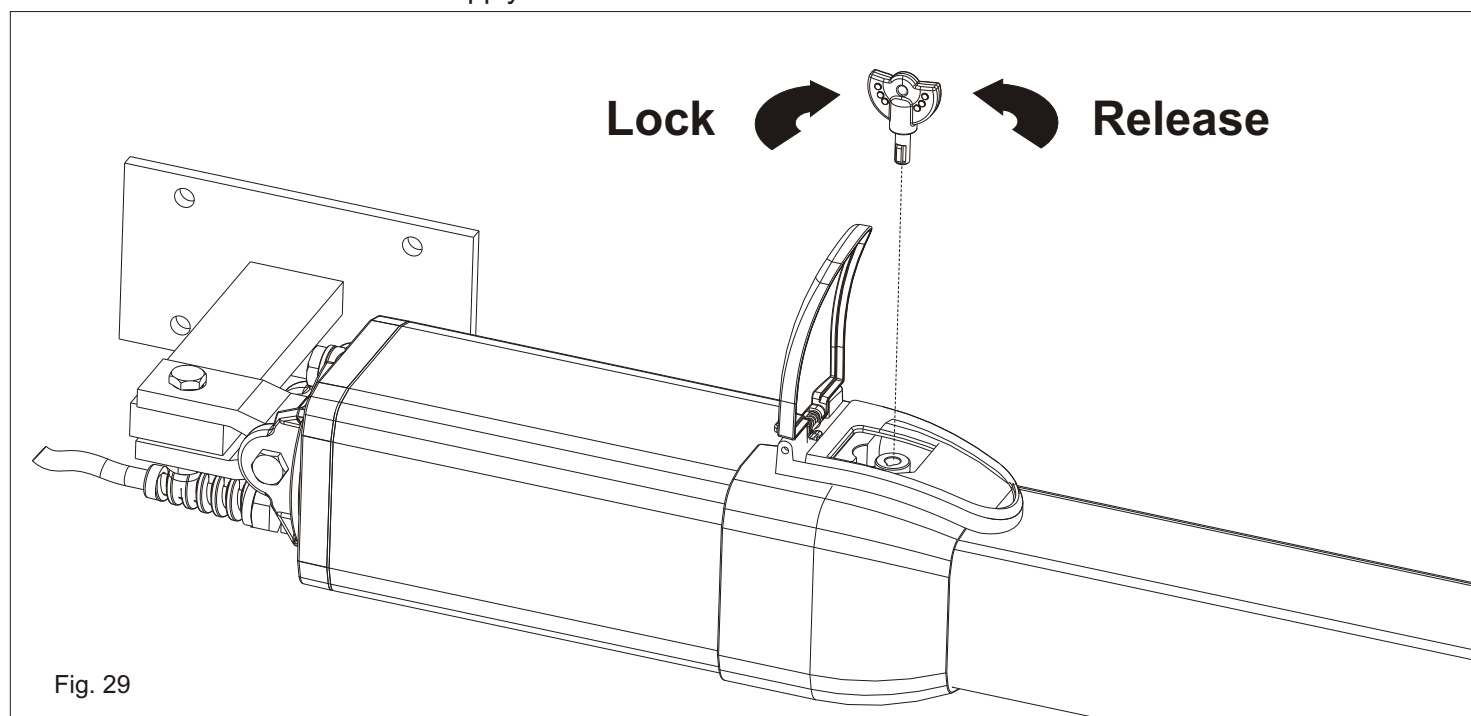

Fig. 29
- 1) Release the operator (as in Fig. 29)
- Release the unit (as in Fig. 29)
-Insert the key and turn it about 180° anti-clockwise (Fig.29).
-Insert the key and turn it clockwise until it stops (Fig.29).